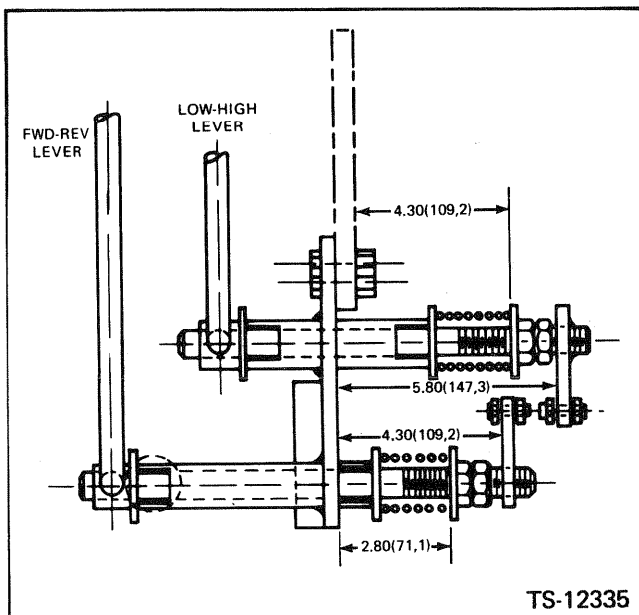

Fig. 9-6 Adjust Spring Tension
11. Adjust the amount of spring tension on the forward-reverse lever and high-low lever by tensioning the springs to dimension shown. (See Fig. 9-6).